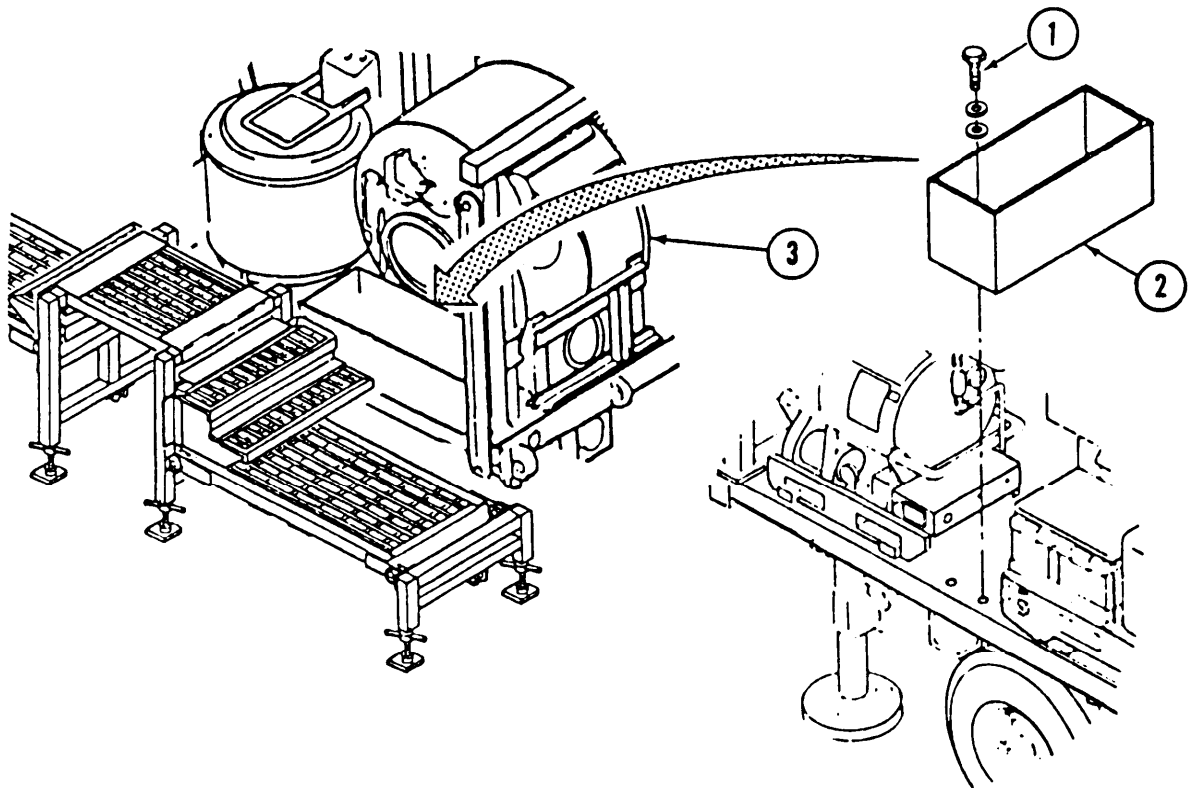

Figure 2-12. DryerBin Removal and Installation
- (1) Remove four bolts and washers (1, figure 2-12) located inside dryer bin (2).
- (2) Remove dryer bin (2) and place it in front of dryer assembly (3).
- (3) Install bolts and washers (1) removed in step (1) in the same locations from which they were removed.